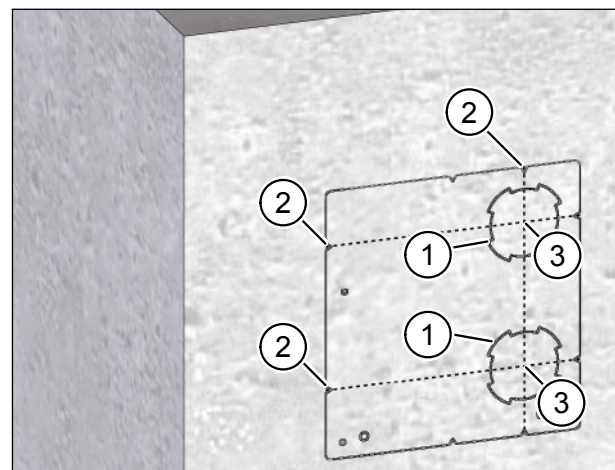

Fig. 10: Marks on the internal wall
- ▶ Mark the outlines (item 1 in Fig. 10) of the pre-punched contours in the drilling template for the core drill holes on the internal wall.
- ▶ Mark the six notches (item 2 in Fig. 10) in the drilling template on the internal wall.
- ▶ Draw the cross-hairs (item 3 in Fig. 10) for the core drill holes using the six marked notches.
- ▶ Check the marks for the core drill holes against Fig. 10.